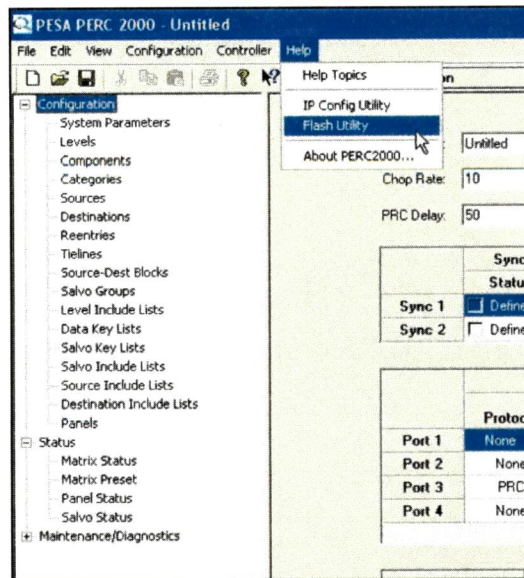

Figure 14. Flash Utility Command Location
- ☐ 3. Click on the Help menu in the Windows™ menu bar and select the “Flash Utility” option from the menu as shown in Figure 14.